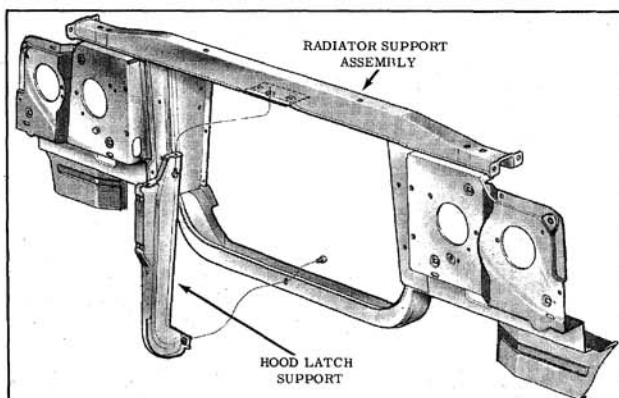

Fig. 15-115 Radiator Support Assembly
2. Remove the screws shown in Fig. 15-115 and screw retaining fender to bumper baffle.